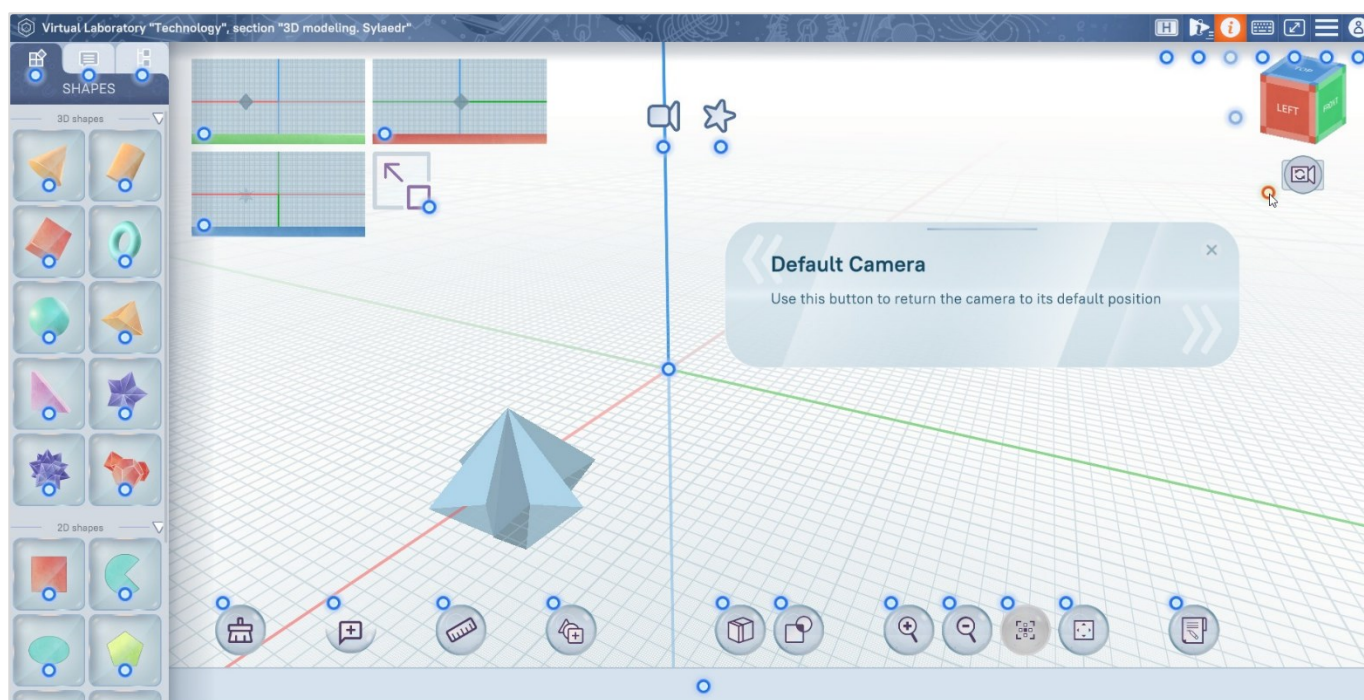

Figure 13 – Tips mode
Press the **Tips** toggle-button  on the **Application Header** panel to switch to Interactive Tips mode. Tip points will appear near the objects in the scene. To view a tip, press the point next to the object (Figure 13).
- dot with orange outline  — the prompt is open on the screen (Figure 13);